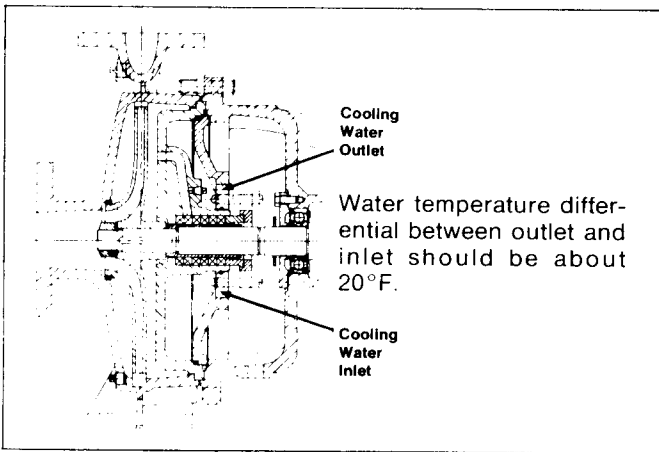

Fig. 5. Cooling water connection for packed pump with optional cooled stuffing box "High Temp Design".
3. COOLING of stuffing box (Fig. 5) must be provided for packed pumps if temperature of pumping fluid exceeds 220°F. Clean, fresh water is to be used as coolant since sediments, calcium or lime deposits, will impair cooling effect. Periodic cleaning of cooling cavity is recommended. Provide valve in cooling water supply line for economical flow adjustment and shut-off during shutdown.